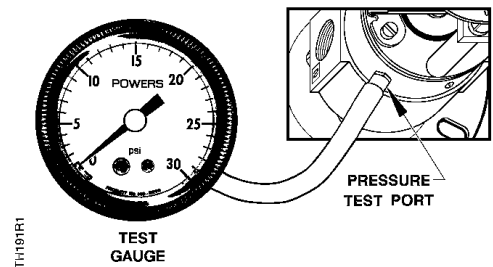

Figure 6. Using the Pressure Test Port.
3. If permanent return air gauge is not installed, use the pressure test port. See Figure 6 for its location.
4. Loosen the test port screw about 1/2 turn, and slip a 3/16-inch ID rubber hose connected to the test gauge over the pressure test port. See Figure 6.